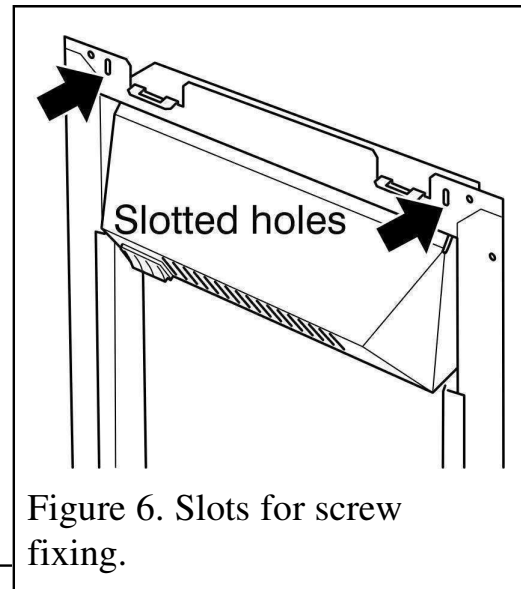

Figure 6. Slots for screw fixing.
2. There are two slotted holes in the top of the heater (See figure 6). Mark through the slotted holes so that their position is clear when the heater is removed.